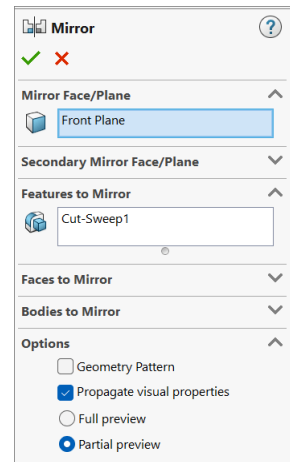

Fig. 95
Step 3. In the Mirror Property Manager click OK , **Fig. 95**.